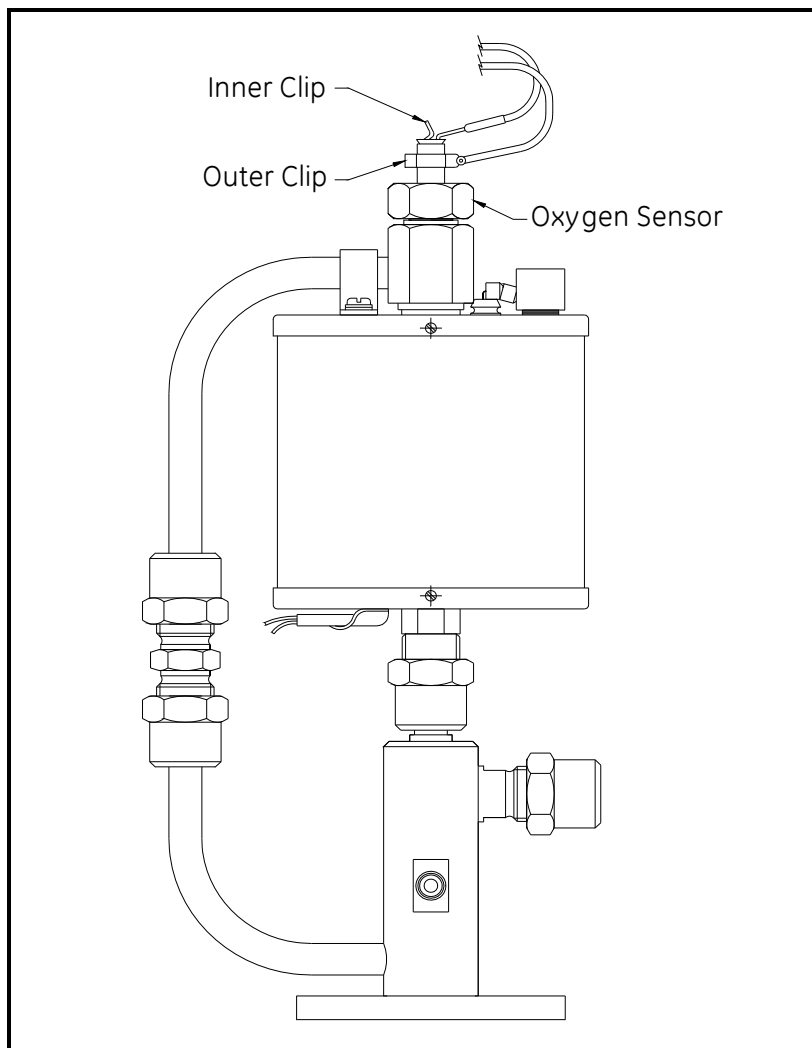

Figure 33: Oxygen Sensor Clips
Power should remain on while replacing the oxygen sensor clips. Refer to Figure 33 while completing the following steps:
3. Locate the oxygen sensor and the oxygen sensor clips (see Figure 33 on page 77).